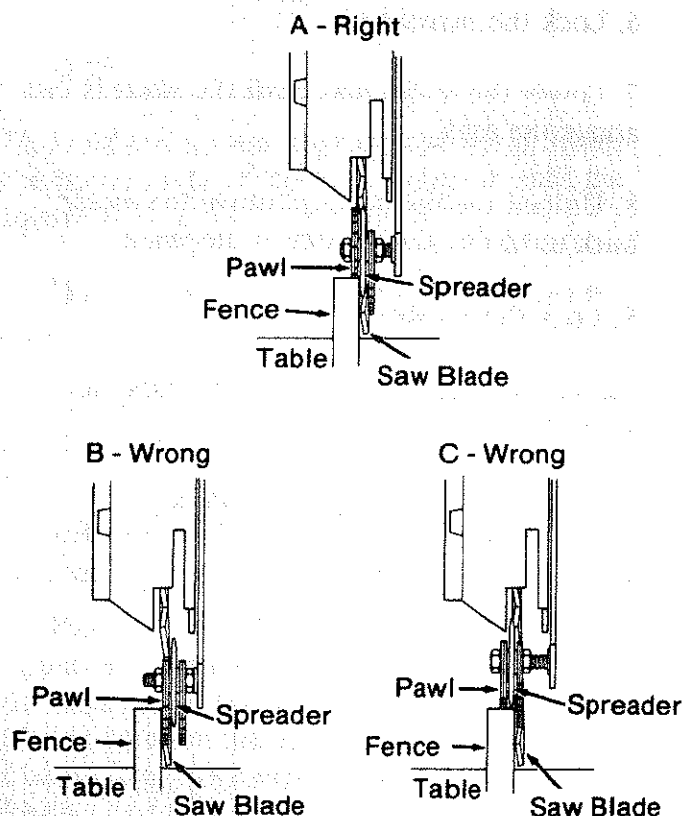

Fig. 77 - A,B,C
12. If the *spreader* and *blade* both rest against the *fence*, no adjustment is needed. (Figure 77-A) Go to step 17, or
If the *spreader* is in front of the *fence* but not touching it (Figure 77-B), go to step 13, or
If the *spreader* hits the top of the *fence* (Figure 77-C), go to step 13.